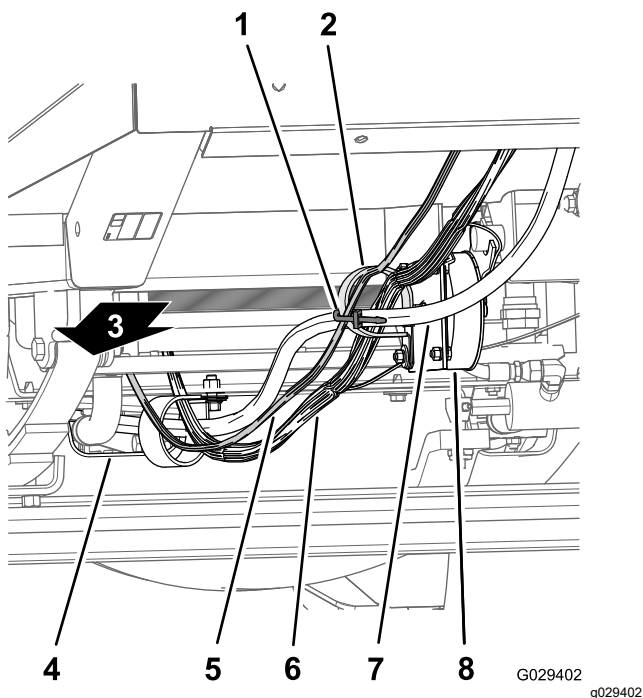
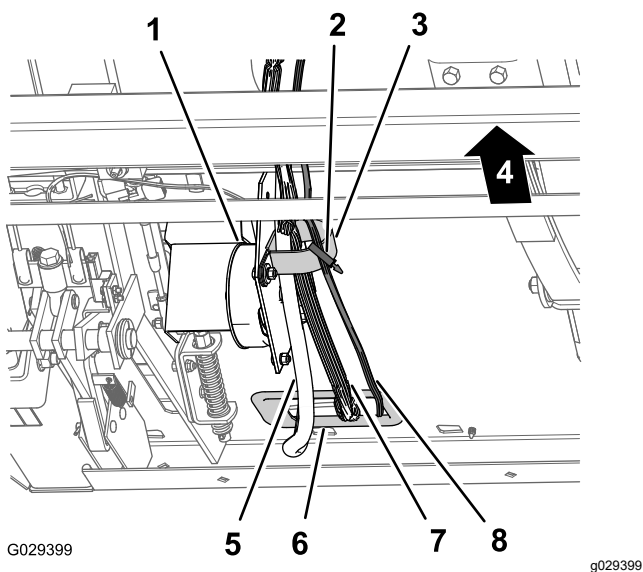

Figure 13
Figure 14
- Route the 240 cm (94-1/2 inch)—dash-panel branch of the wire harness along the wire harness and steering hoses of the machine (below the radiator), through the R-clamp at the bottom of the radiator support, through the R-clamp at the ground-speed-control coil (Figure 13 and Figure 14).
2. Route the 240 cm (94-1/2 inch)—dash-panel branch of the wire harness to the R-clamp at the ground-speed-control coil (Figure 13 and Figure 14).